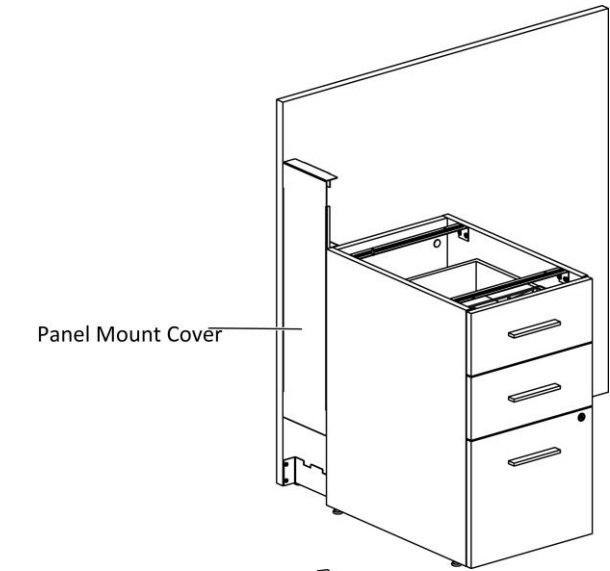

Figure 3
- 8. Place the panel mount cover between the gallery panel and pedestal, (Figure 3).